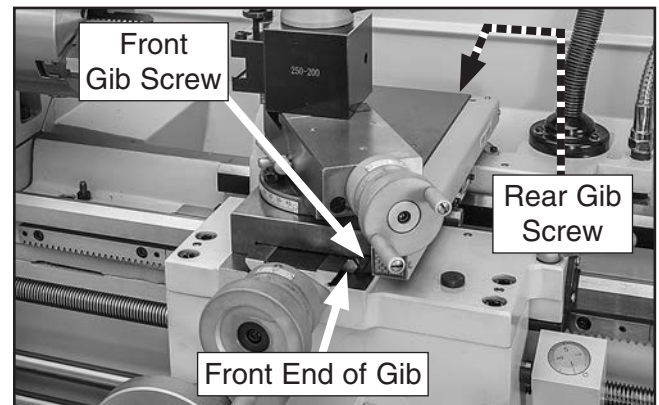

Figure 130. Cross slide gib components.
2. Loosen gib screws (see **Figure 130**) and adjust as required.